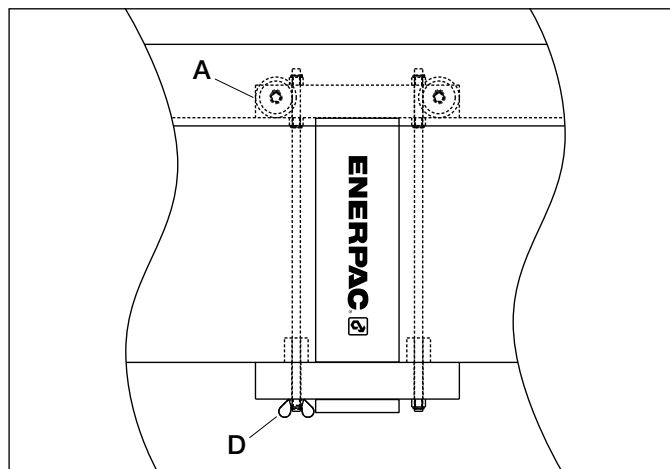

Figure 3
7.0 REPOSITIONNER LE VÉRIN (voir figure 3)